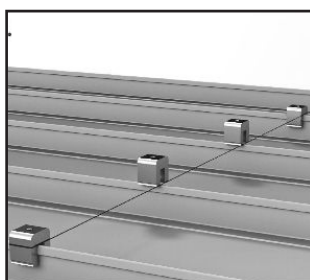

Figure 1
1. Install the first row of S-5! clamps, at the edge of the array: It is critical for this row to be straight. Install a clamp at both ends of the row by measuring from a reference point, such as the eave of the roof. Tighten the setscrews with Screw Gun and the included Bit Tip. The setscrews will dimple the seam material but will not penetrate it. When relying on published load values, setscrew tension should be verified periodically using a calibrated torque wrench to ensure the tool is consistently achieving the proper torque range (see Setscrew Torque Table below). Please see installation instructions provided with clamps for specifics. Stretch a string line between the two end clamps to provide a true line to mount the remaining edge clamps (Fig. 1).